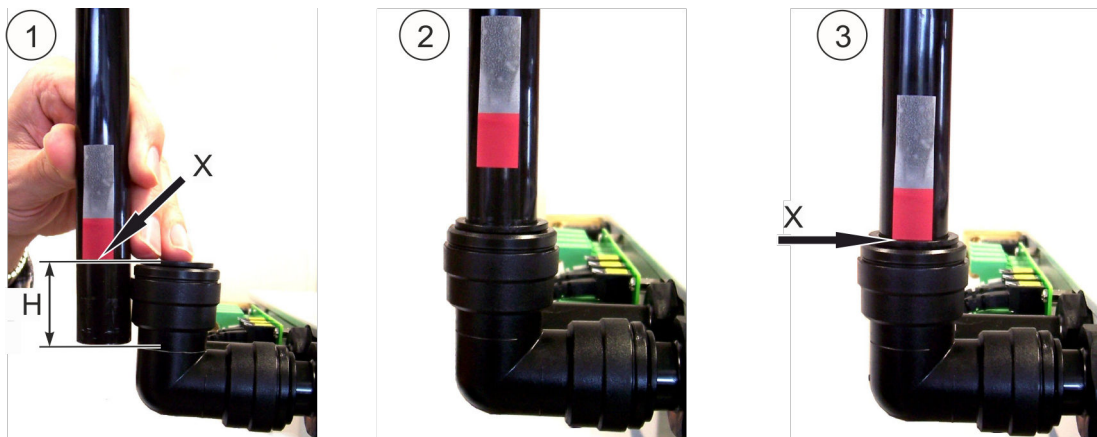

Fig. 31: Mounting
1. ➤ [Fig. 31 /1]: Mark the insertion depth (Fig. 31 /H) of the pipe (Fig. 31 /X). Use the auxiliary line at the pipe angle. Insertion depth (H) approx. 33 mm.
2. ➤ [Fig. 31 /2]: Loosely insert the pipe.
3. ➤ [Fig. 31 /3]: Push in the pipe up to the marking (Fig. 31 /X) and until it can be heard and felt to be in the stop.